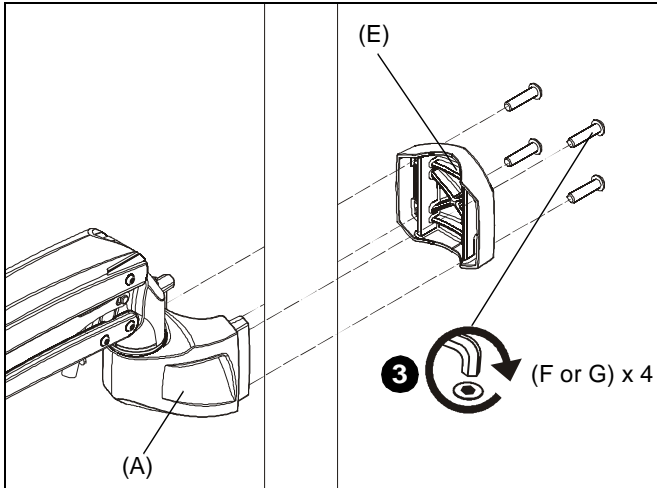

Figure 1
2. Place mount (A) against pole with clamp (E) on opposite side of pole. (See Figure 1)
3. Using 5/32" hex key (L) and appropriate length screws, loosely attach assembly to pole clamp (E). If installing to 1 1/2" NPT pipe, use 1/4-20 x 1 1/2" button head cap screws (F). If installing to 1 1/2" diameter pipe, use 1/4-20 x 1" button head cap screws (G). (See Figure 1)